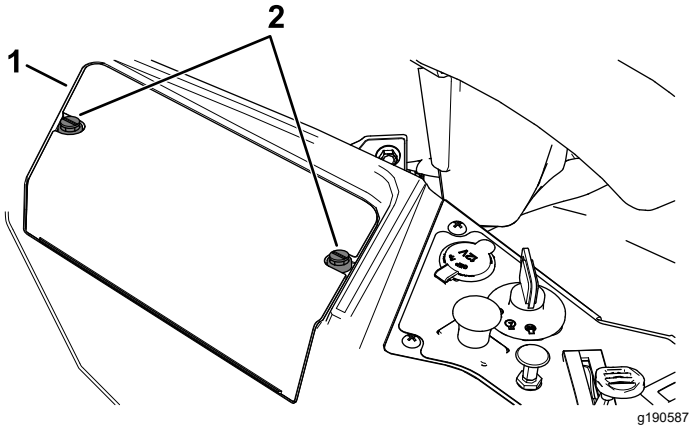

Figure 44
- Loosen the 2 fasteners on the battery cover counterclockwise 1/4 turn, and remove the battery cover (Figure 44).
6. Install the battery cover by pushing down and tightening the 2 fasteners clockwise (Figure 44).